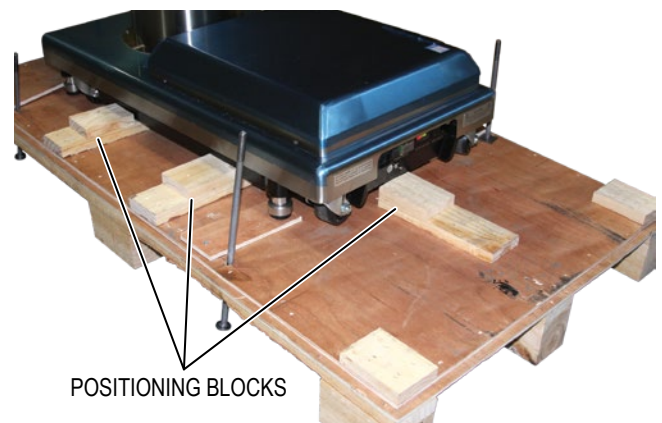

Figure 8. Remove Screws and Positioning Blocks
18. Remove the fasteners that secure the positioning blocks on the head end and sides of the table base to the shipping crate base. Remove the positioning blocks on the head end and sides of the table (Figure 8).